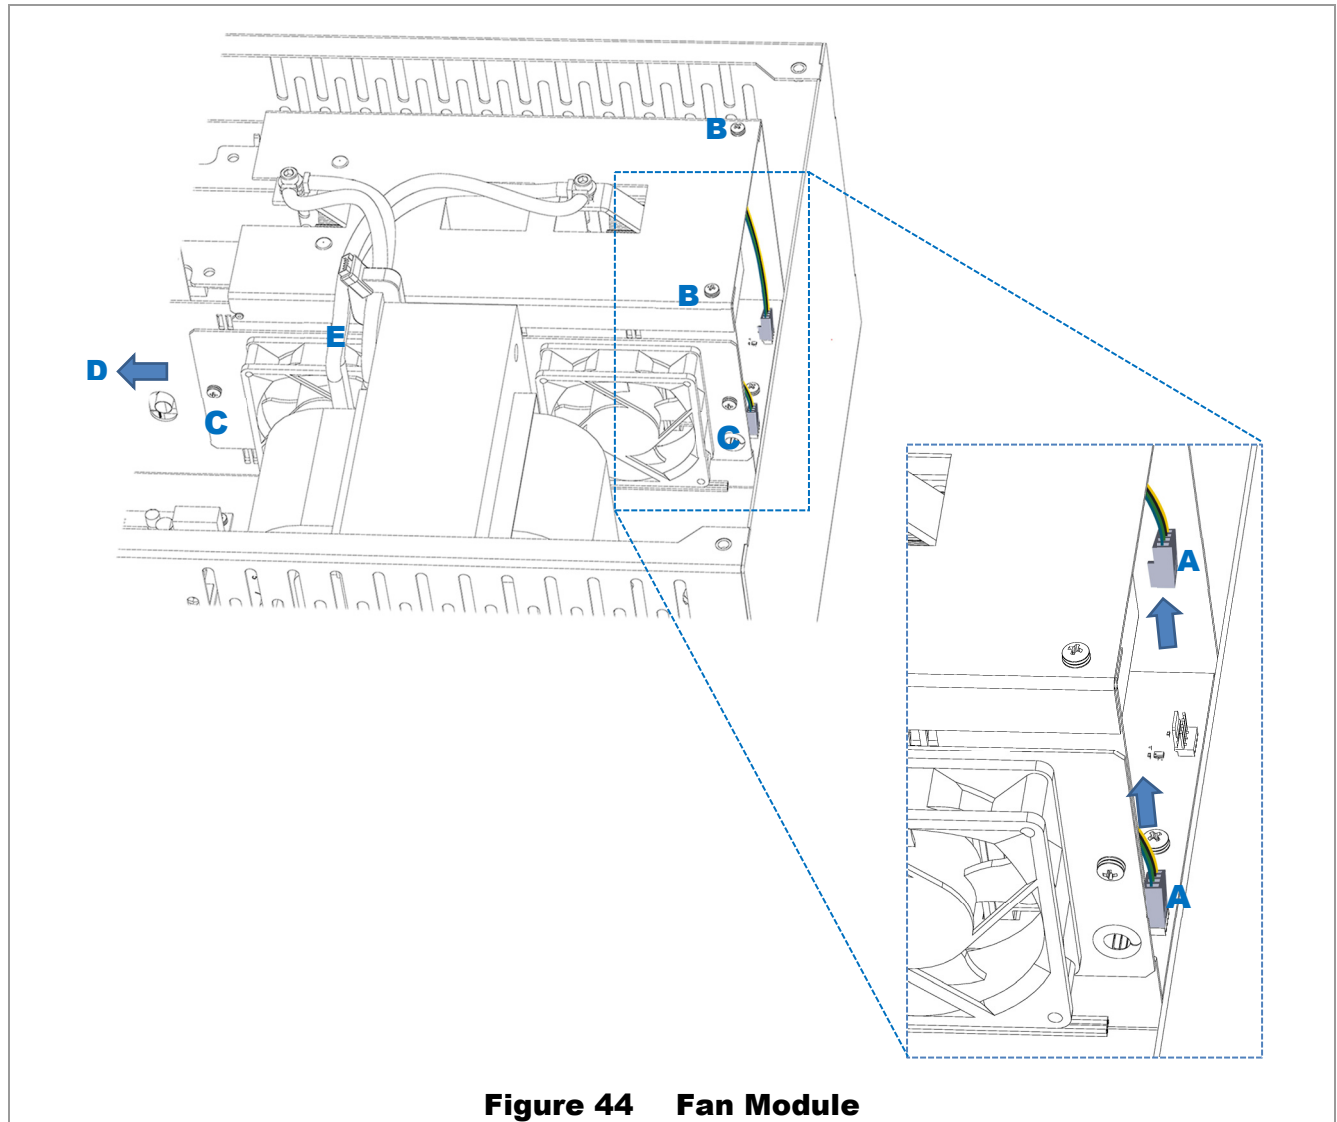
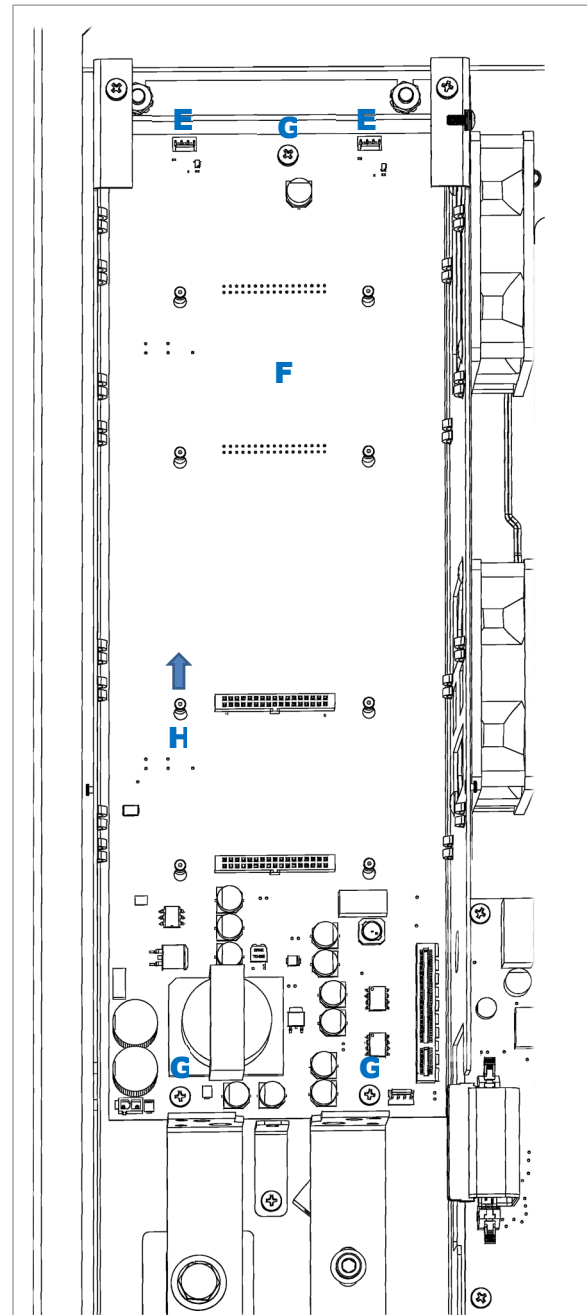

Figure 44 Fan Module
Figure 49 Carrier Board
1. Remove the two fan plugs at the top of the carrier board. See **A** in the Figure 44 inset. If necessary, loosen the power module cage cover at **B** to allow access to the plugs.
2. Using a #2 Phillips screwdriver, remove the two screws securing the fan module. See **C** in Figure 44.
3. Slide the fan module out of its slot in the direction indicated by **D** in Figure 44. Note that the module will have to slide under the transformer cables **E**, which have not been removed.
4. Replace the fan module. Perform all previous steps in reverse order. See Figure 44.
5. Remove the two fan plugs at the top of the carrier board **F**. See **E** in Figure 49. If necessary, see **A** in the Figure 44 inset.
6. Using a #2 Phillips screwdriver, remove the screws **G** at the top and bottom of the carrier board. See Figure 49.
- Replace the carrier board **I**. See Figure 49 for all items.